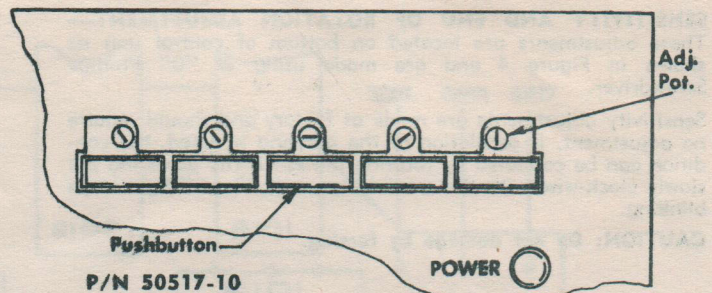

FIGURE 3
- B. Note adjusting potentiometer above and behind each switch button (See Figure 3).